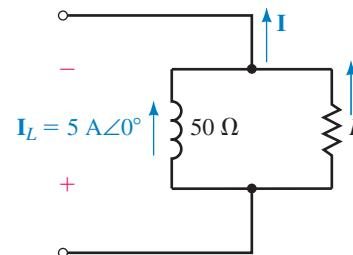

FIGURE 18-111
43. Suppose that the circuit of Figure 18-111 has a current \mathbf{I} with a magnitude of 8 A: